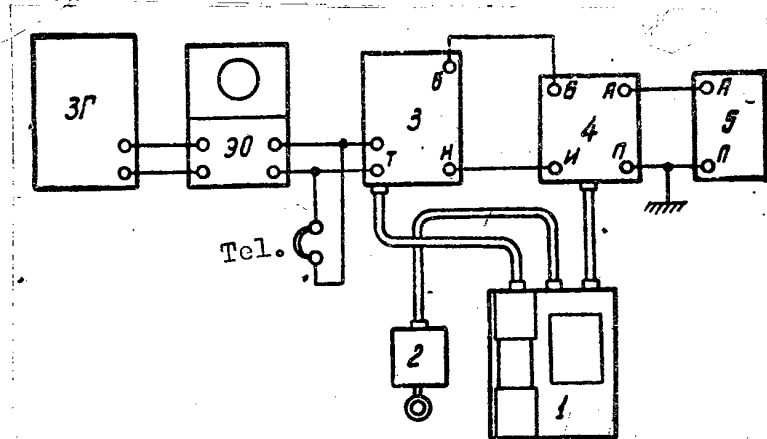

Figure 14: Block diagram of the instruments required for checking of transmitter calibration and frequency adjustment.
1. Assemble the circuit shown in Fig. 14.